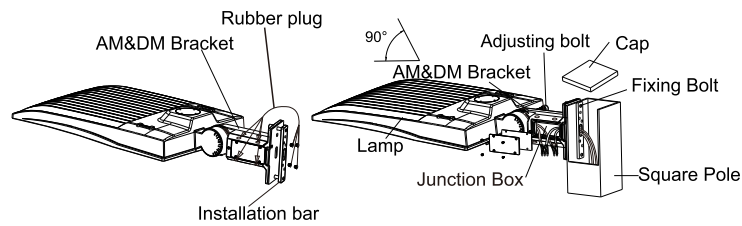

Figure 19
Step 1: Remove the four bolts from A&D bracket, remove the four rubber plugs from installation bar, put the four rubber plugs on the place where the four bolts were previously placed on the bracket for waterproof purpose(Figure 19)